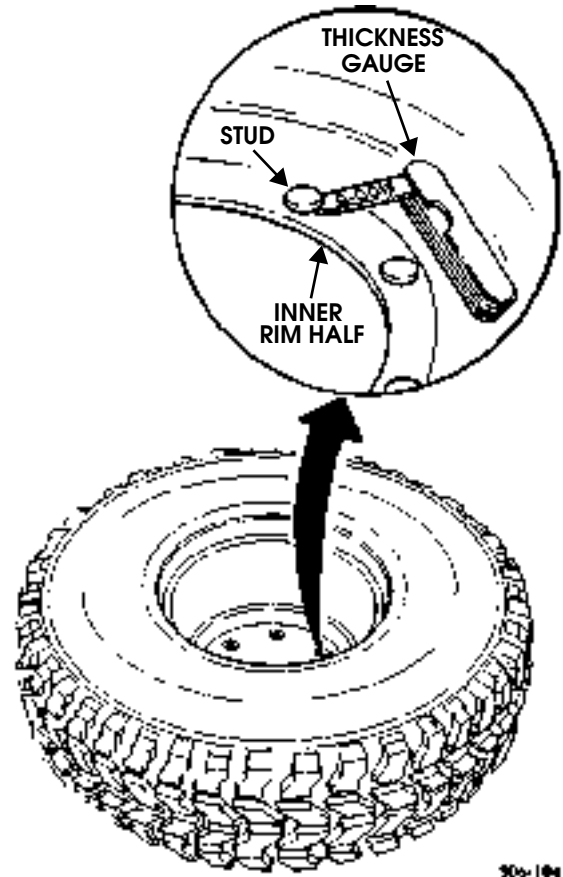

Figure 6-16: Checking Wheel Stud Gap
18. Check wheel assembly for gaps at each stud. Use a 0.0015 inch (0.038 mm) thickness gauge to detect gaps. If gaps are detected, disassemble and reassemble wheel assembly and recheck for gaps. If gaps are still detected, replace inner rim half (Figure 6-16).